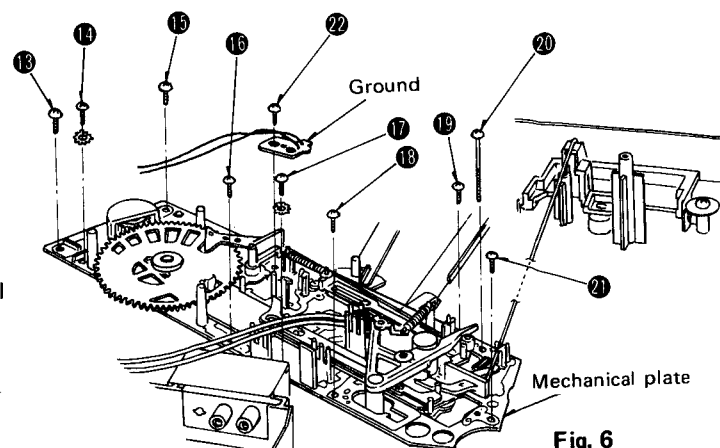

Fig. 6
## • How to remove the mechanical plate (Fig. 6)
2. Remove the 9 setscrews [ Fig. 6: ⑬ ~ ⑳ ] of the mechanical plate and output terminal shielding plate, and the setscrew ㉒ of the Ground terminal.